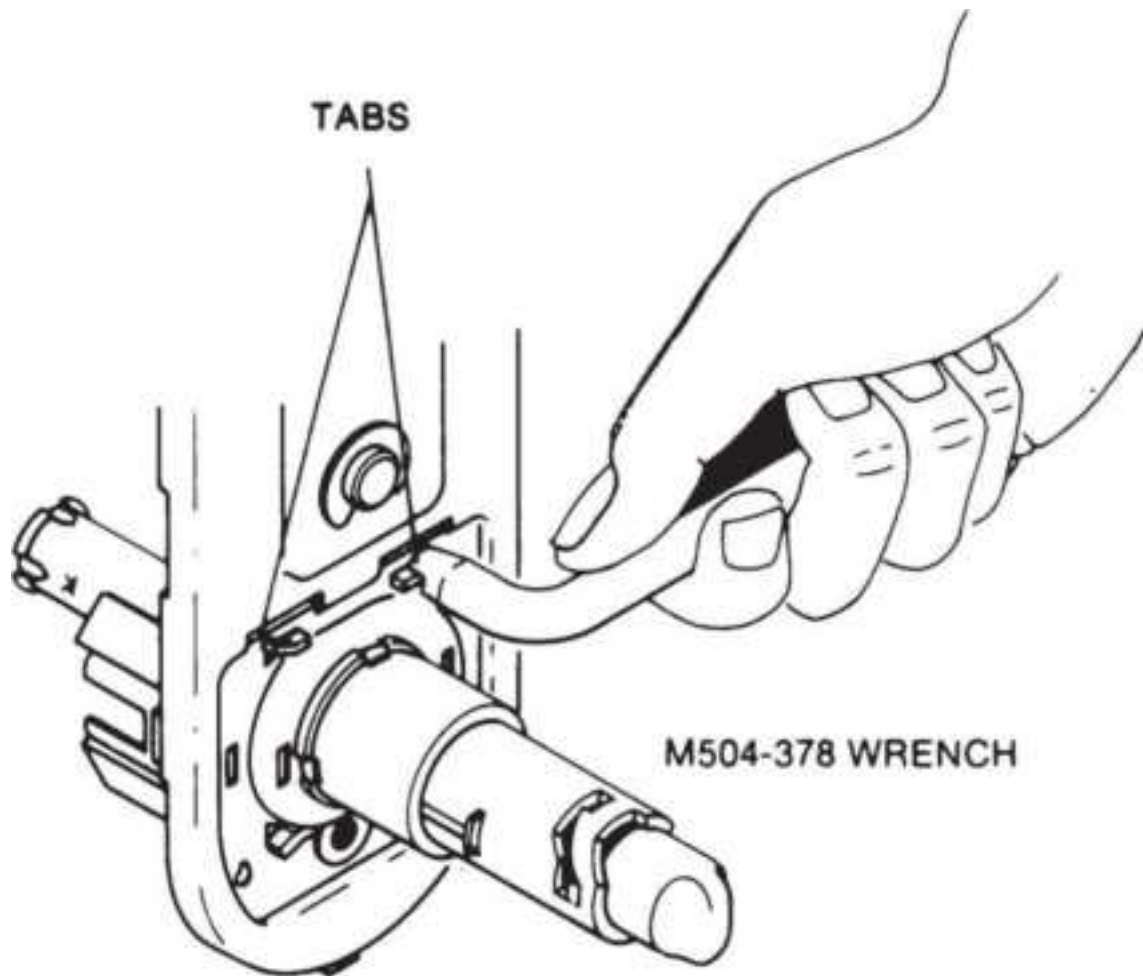

**Figure 13.96** Right-hand conversion, Step 4.
4. With a factory-supplied wrench or long-nosed pliers, straighten the tabs (Fig. 13.96 ).